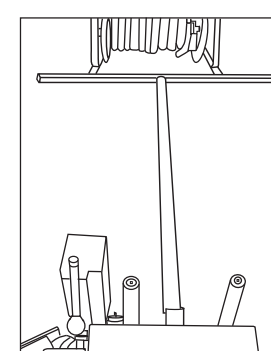

Fig. 7
- T-Handle must be braced against cable reel or an immovable object usually with a piece of strut or wood. To extend Feeder distance from the reel unscrew T-Handle at the coupling and screw on a 1" rigid pipe or insert a 1-1/2" piece of EMT or larger through the handle and brace it against the strut or wood beam. (Fig. 7)
- For faster or slower speeds engage the High/Low switch (12).